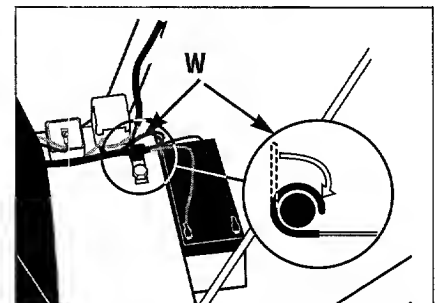

Figure 2-4: Wire harness secured by J-clips.
3. If applicable, secure wire harness in place on deck with pre-installed J-clips (W, Figure 2-4). Insert wire harness into J-clips as shown in Figure 2-4, bending J-clips over to retain harness.